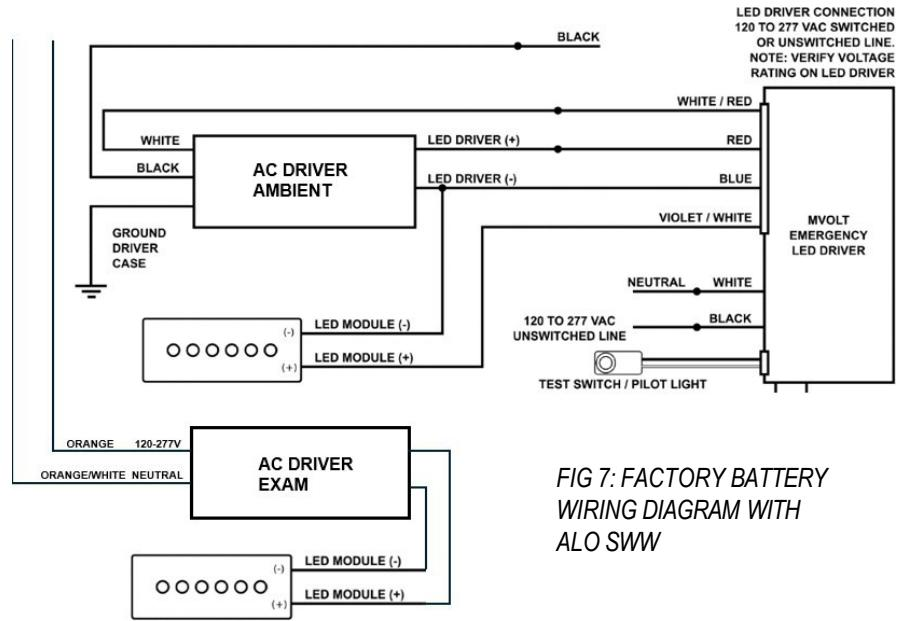

FIG 7: FACTORY BATTERY
5. (BATTERY OPTION WITH EXAM ZT OPTION ) If fixture includes factory installed emergency battery. See Figure 7.